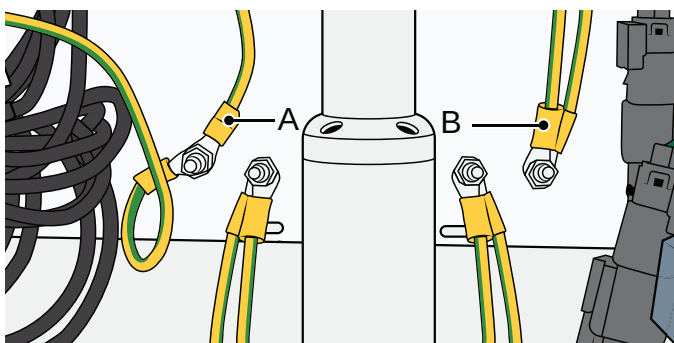

Figure 47
29. Disconnect the bottom sensor earth cable (A) and fill spout earth cable (B). See Figure 47. Pull away the cables so they do not get stuck during the assembly.